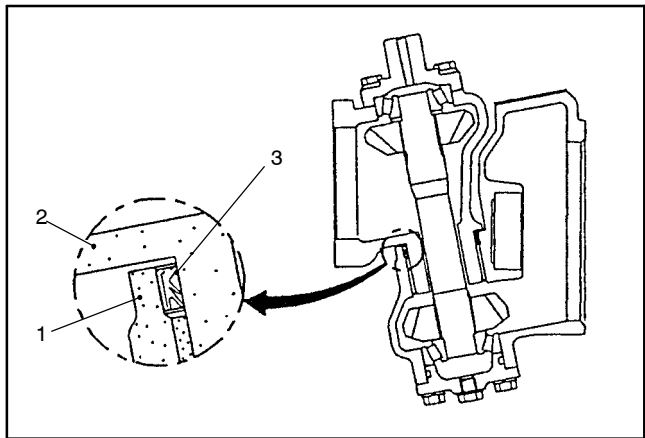

Figure 16
1. Coat new shaft seal with grease and install in axle case as shown (Fig. 16).